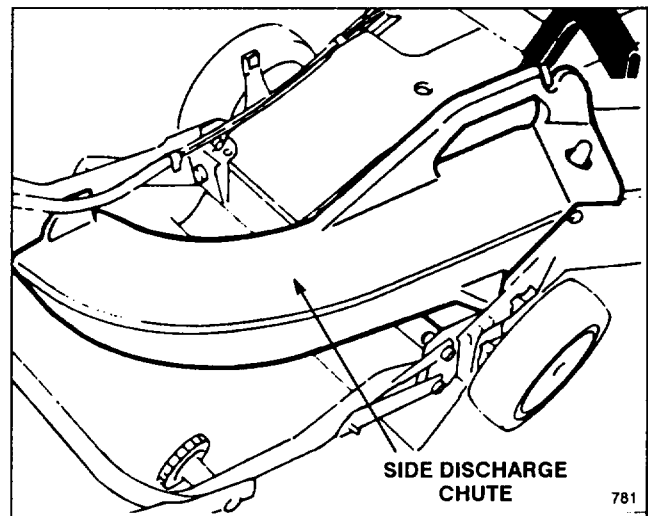

Figure 28
2. **Side Discharge Kit, Model 59189**—Install discharge tunnel and rear mounting side discharge chute to convert Recycler® II Super Pro® mower to a side discharge mower (Fig. 28). Includes discharge tunnel plug.